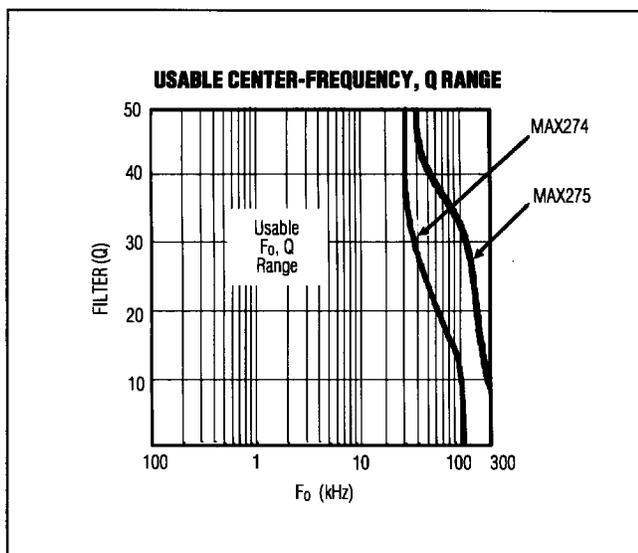

Figure 4. Usable F_o , Q Range. See *Translating F_o/Q Pairs into Hardware (Resistor Selection)*.
1. Check all F_o/Q pairs for realizability. The MAX274/MAX275 have limits on which F_o/Q values can be implemented. These limits are bound by finite amplifier gain-bandwidth and amplifier load drive capability (which limit the highest frequency F_o /highest Q_s) as well as amplifier noise pickup and susceptibility to errors caused by stray capacitance (which sets a low-frequency limit on the poles). Refer to Figure 4 to be sure each F_o/Q pair is within the "realizable" portion of the graph. If filter Q_s are too high, reduce them by increasing the filter order (that is, increase the number of poles in the overall filter).
High-frequency F_o s (up to 400kHz) and high Q s outside of Figure 4's limits are also realizable, but F_o and Q will deviate significantly from the ideal. Adjust resistor values by prototyping.